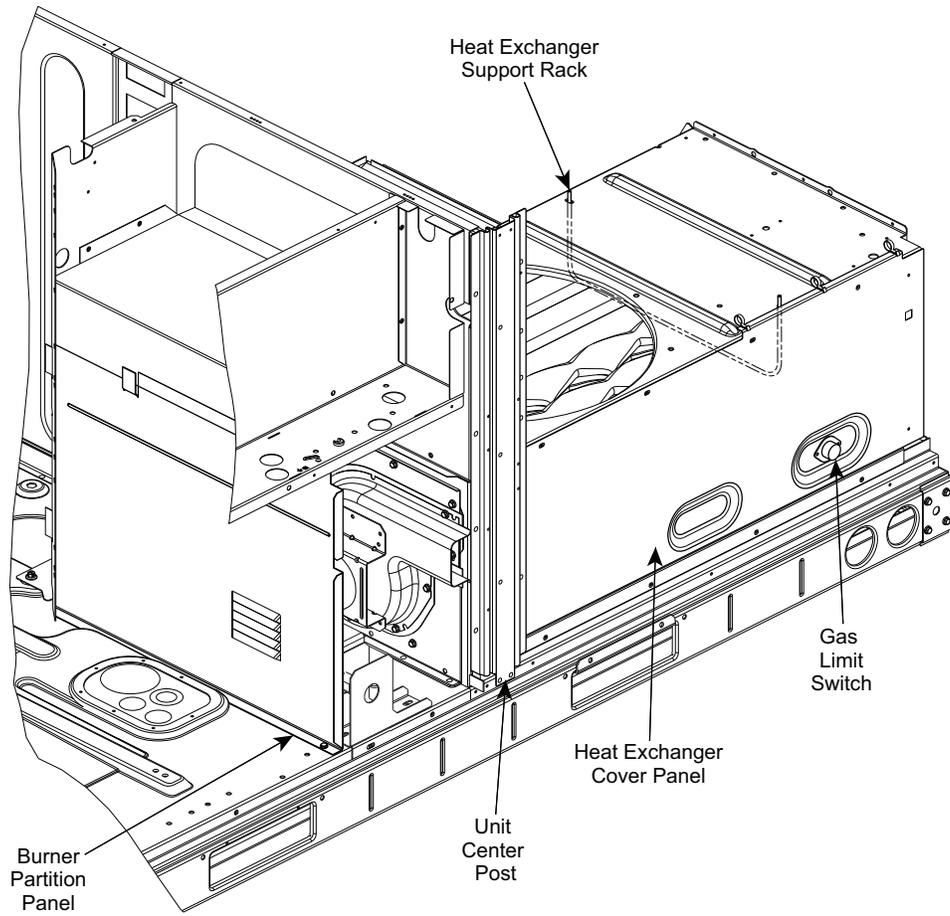

Fig. 53 — Heat Exchanger Access - Internal Panels, Center Post and HX Rack Locations
1. Remove the screw at the base of the burner partition panel (see Fig. 53) and slide out the panel.
5. Remove the screw at the base of the burner partition panel (see Fig. 53) and slide out the panel.
3. Remove the unit center post (see Fig. 53).
Remove the indoor blower access panel. Limit switch is located on the heat exchanger cover panel. See Fig. 53.